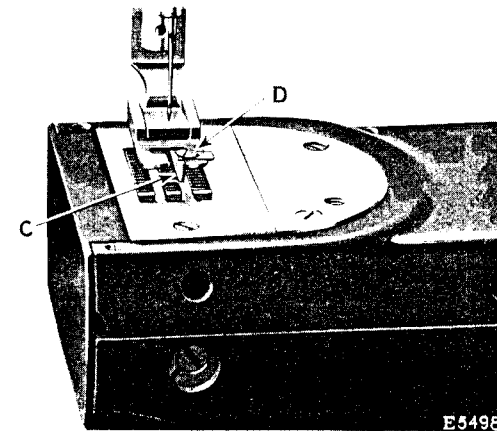

Fig. 18. Adjustment of Presser Foot of
When making the sideway stitch to the **right**, the right side of the guide (C, Fig. 18) is used. To adjust the presser foot for the sideway stitch to the **right**, loosen the screw (D, Fig. 18) and move the guide (C) to the left as far as may be required to make the stitching margin the desired width, then securely tighten the screw (D).